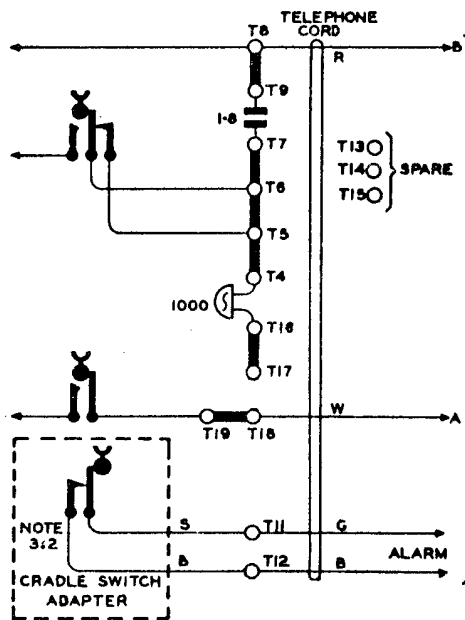

FIG. 3
3.2 Holding key alarm with normal telephone (Fig. 3).
3.2.2 Connect the leads from the additional springset as shown in Fig. 3.
3.2.3 Replace the 3-wire cord HC 543... with a 4-wire cord KC 729... and connect as shown in Fig. 3.
3.3.1 Fit cradle switch adapter as in Fig. 3 and Note 3.2.
5.4 Extension Bell Cut-off Key. Use a No. 710 telephone, see C 2010, Fig. 3.